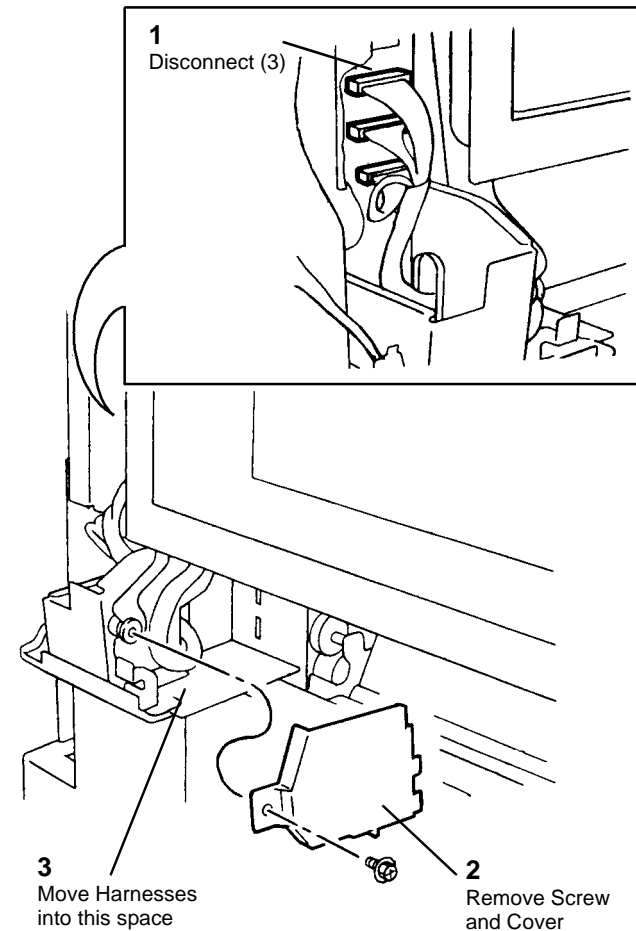

Figure 1 Disconnecting Electrical Connectors (3)
7. Disconnect connectors (3) (Figure 1).